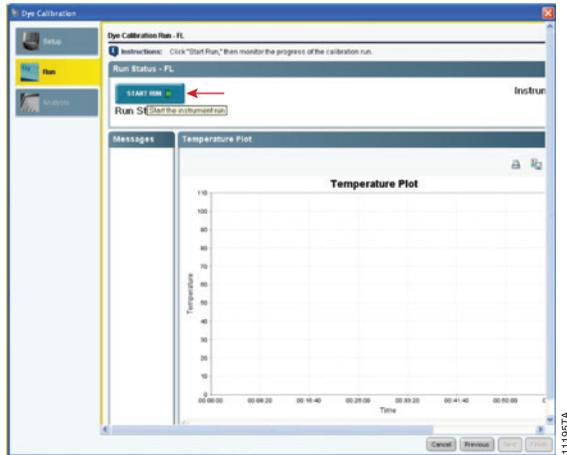

Figure 9. Start run.
14. Select “Start Run” (Figure 9).